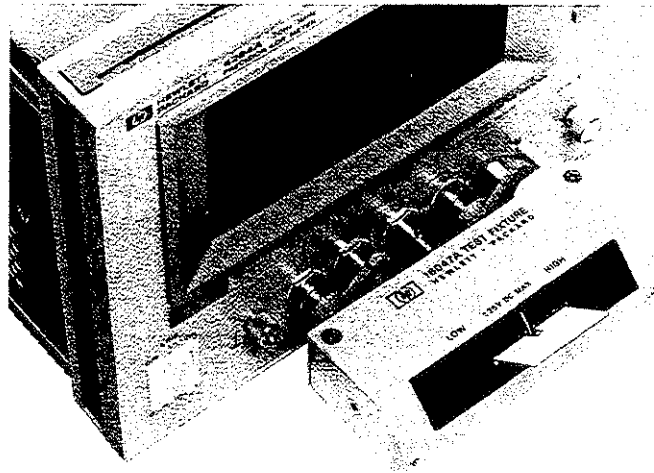

Figure 6-24. Connecting A Shorting Bar
- f. Connect a shorting bar to the HP 16047A to set up the SHORT condition as shown in Figure 6-24.